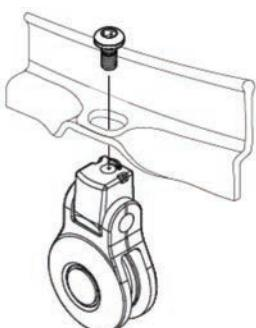

Fig. 3
2. Thread bolt (H1004) through the hoop, into the pulley fixture (PF101) (**Fig. 3**). Tighten until snug, **do not over-tighten**.